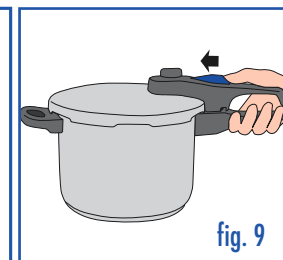

fig. 9
**Remark:** Do not rinse the cooker too strongly in order to avoid water entering the cooker via the safety valve and / or the pressure control valve. After opening the slide bar should remain in the stop position. If it returns to the close position, please slide it back until the stop because otherwise the lid will not fit on the cooker (see fig. 9).